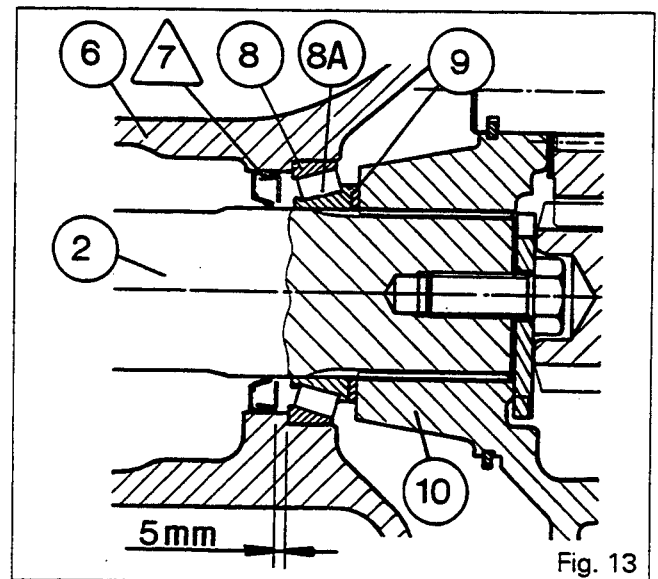
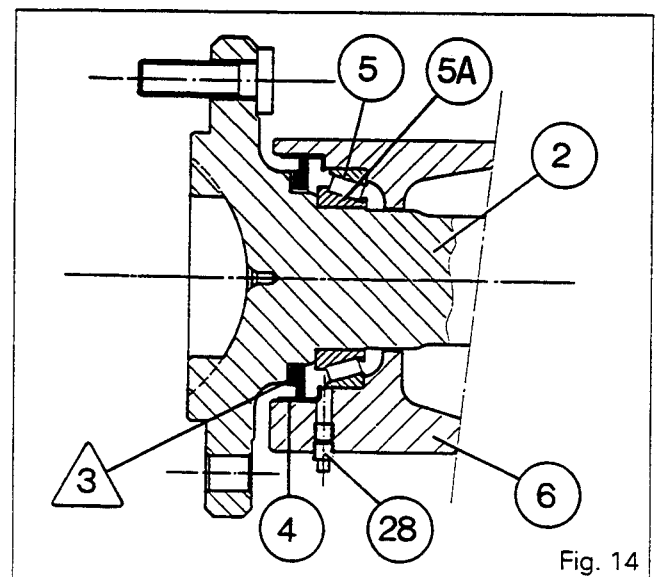

Fig. 13
Fig. 14
Position the seal 5 mm from the shoulder of the cup (8) (Fig.13).
12. Lubricate the cups (8) and (5) and press them fully on to the shoulder.
13. Press the housing (4) fully on to the shoulder (Fig.14).
**Note : Ensure that the seal is fitted the correct way round (Fig.14).**
15. Lubricate the shaft (2) and press the cone (5A) against the shoulder.
17. Protect the splines of the shaft (2) and insert it into the trumpet housing.
19. Refit the cone (8A), the washer (9) and the planetary carrier (10).
21. Replace the plug (28) by a grease nipple. Partly fill the cavity at the end of the trumpet housing between the cone (5A) and the seal /3\ with BP Agricharge or an equivalent grease. Remove the grease nipple and refit the plug (Fig.14).